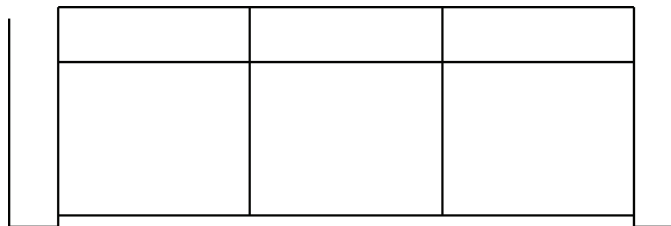

FIGURE 9.4 Filleting lines to meet at sharp corners
10. Press the spacebar to repeat the FILLET command. Click the inner line on the left arm of the sofa, and then click the back line. Figure 9.4 shows the result.